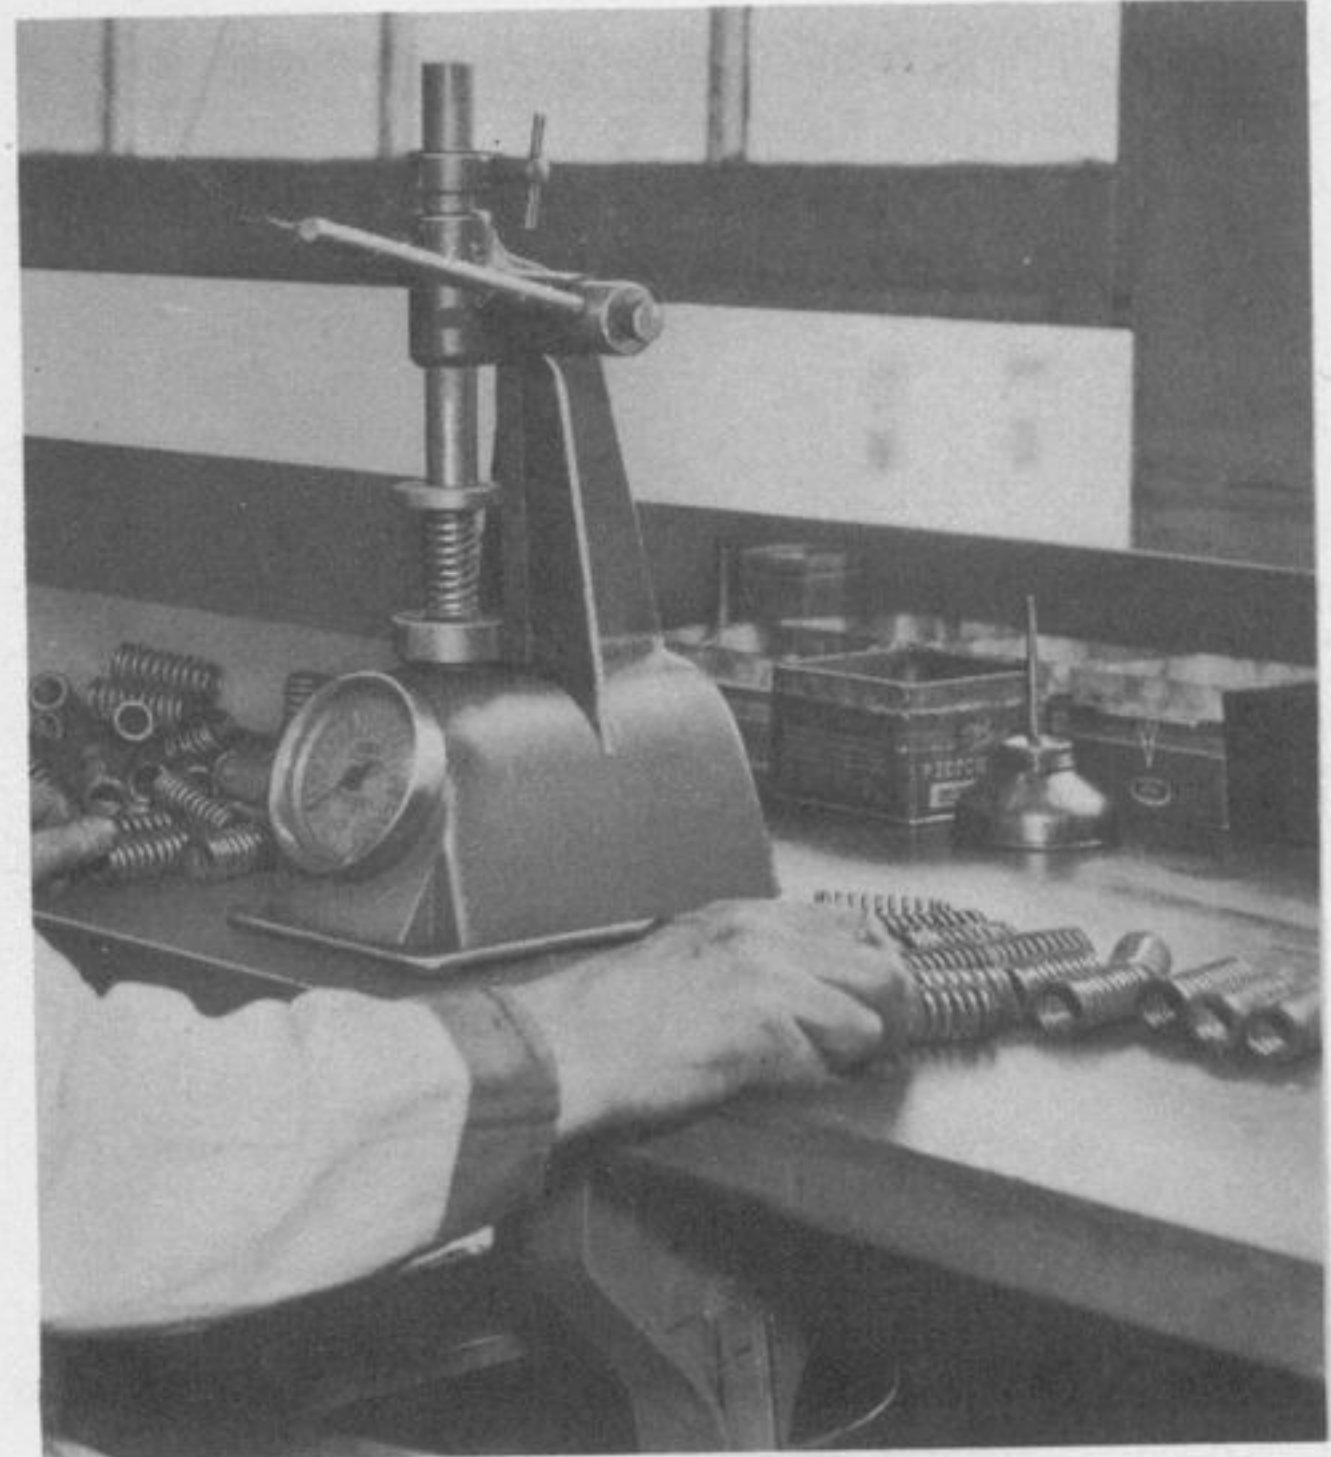

Figure 63—Checking Valve Spring Tension
b. VALVE SPRINGS. Avoid cleaning valve springs in caustic solution as this will destroy the rustproof coating on the spring. Check the tension of each valve spring (Fig. 63). Replace all valve springs that check five or